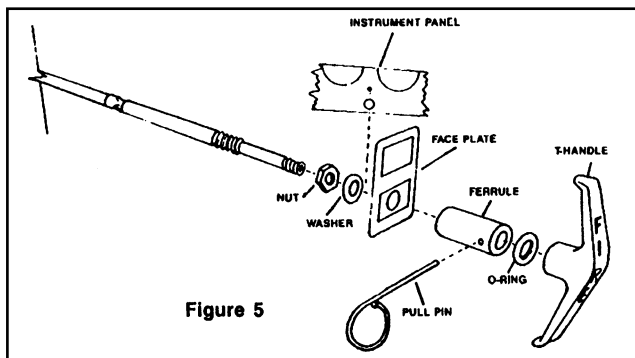

Figure 5
- The area selected must be structurally secure and provide at least twelve (12) inches (305mm) of clearance at the rear of the panel to facilitate cable hardware.
- The cumulative number of bends in the cable run must never exceed 360 degrees. This is equivalent to four (4) right (90°) angles. Use extreme care when bending cable to avoid kinking. Never form a bend with a radius of less than twelve (12) inches (305mm). Selection of the correct size Sea-Fire cable length will eliminate cable coil.
- Using the manual discharge faceplate as a template (**Figure 5**) mark and drill a 13/32 inch (10.4mm) hole. Install the manual release cable adhering to the guideline in Step 1 above.
d. Following the diagram in **Figure 5**, install the nut and lock washer on the cable and insert the cable end through the panel and faceplate hole. Extend cable shaft out to its fullest and install ferrule by screwing onto the cable shaft end. Do not over tighten. Four or five turns are sufficient.
f. Push the handle into the ferrule. This will seat the o-ring seal. Align the pull pinholes in the handle and ferrule and insert the pull pin (**Figure 5**).